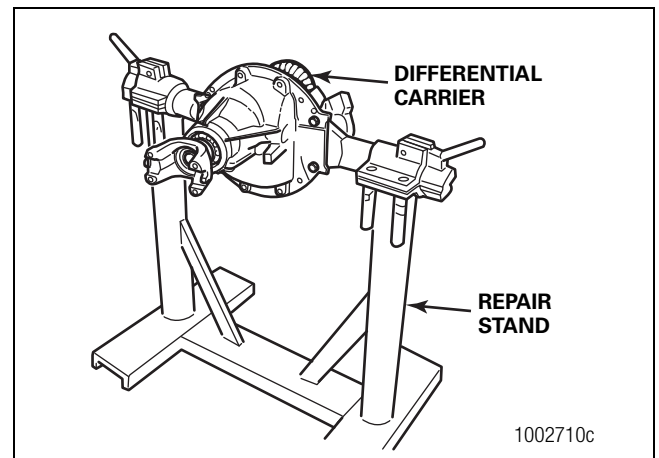

Figure 3.7
7. Use a lifting tool to lift the differential carrier by the input yoke or flange. Do not lift the carrier by hand. Place the assembly in a carrier stand. Figure 3.7. Refer to Section 9, Special Tools, to build a stand.